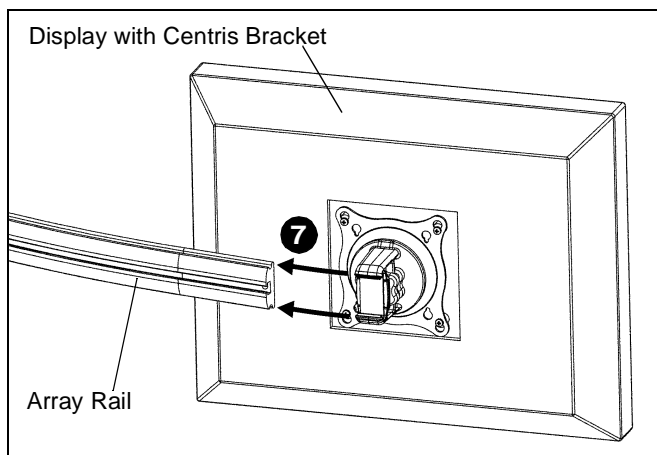

Figure 9
7. Slide display with Centris bracket onto mounting rail. (See Figure 9)